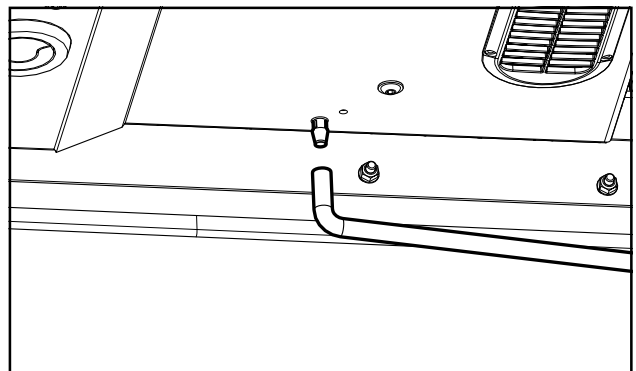

Fig. 3.8 (Attach Drain Tubes)
3.8 Attach drain tube to the underside of the air conditioner on the driver's side and the passenger's side. Be careful not to push the nipple back up into the air conditioner. Passenger's side shown in Figure 3.8.